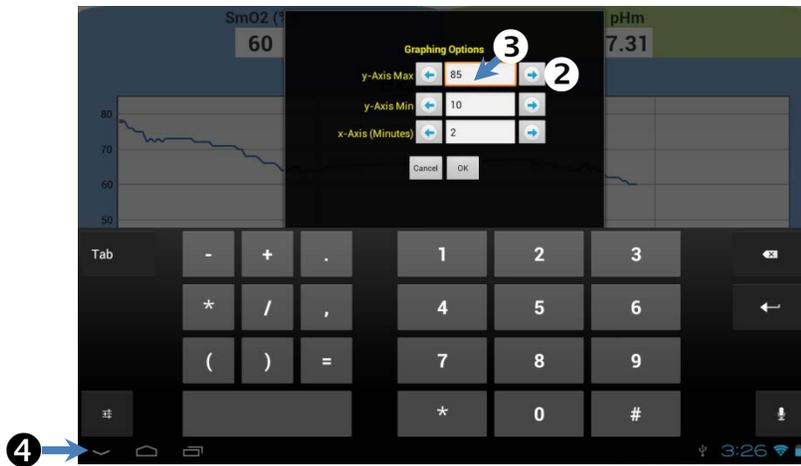

Figure 23. Graphing Options Screen- Using On-Screen Keyboard
- 2 Adjust X and Y Axes values using + and – buttons (Figure 23 ②)
- 3 If desired, click the value box to bring up the on-screen keyboard for editing (Figure 23 ③) Hide the on-screen keyboard when adjustments are complete (Figure 23 ④).